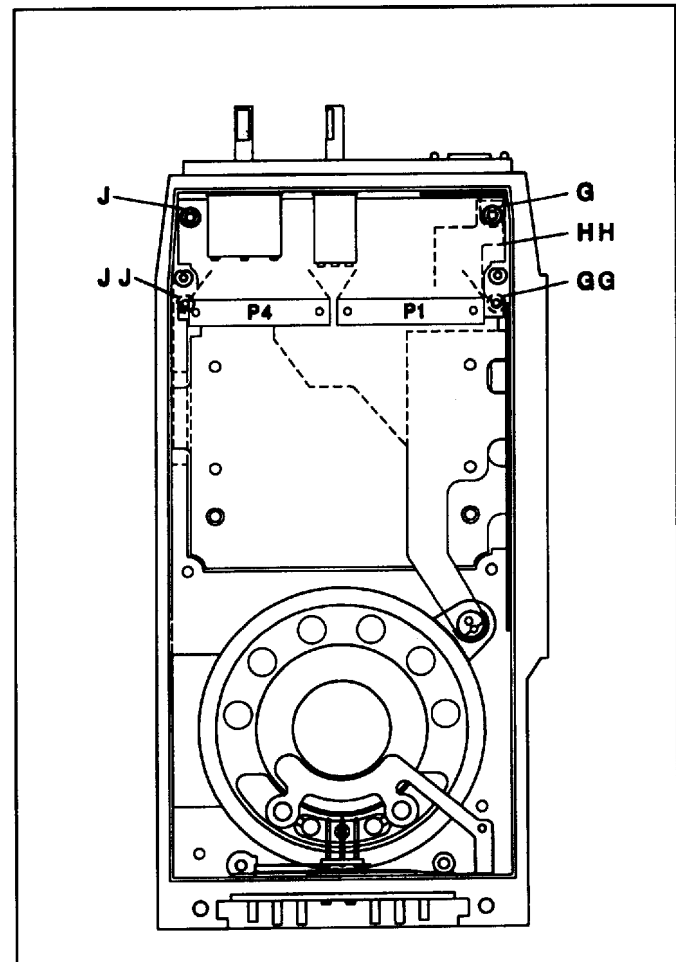

Figure 5 - Keypad Flex and LCD Board Access
driver. Unscrew the two (2) screws securing the top panel and lift and remove the panel. Lift the Emergency Button Board by carefully unplugging J6 from P6. With a spanner wrench, remove the nuts securing the volume and channel controls and carefully slide the controls inside the radio. Unscrew the two (2) screws (G and GG) and remove the J10/P10 Zebra strip securing plate (HH). See Figure 5. The Keypad Flex is now free for removal.
After the top areas of the Keypad Flex have been freed as previously outlined, the LCD Board can be removed. At this point is the disassembly process an earlier Front Cover Assembly has two (2) screws on the left side as view from the back (J and JJ) and a later assembly has a single screw in the upper left-hand side (J). See Figure 5.